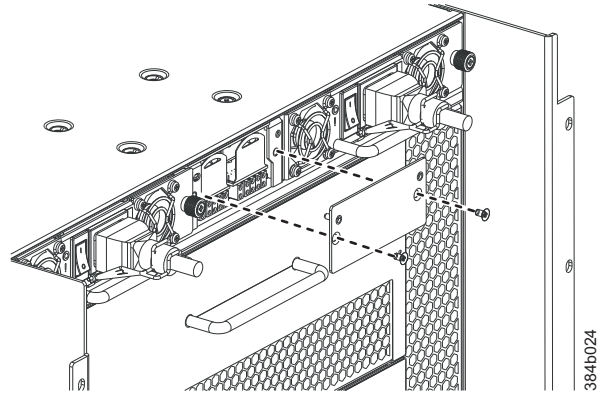

Figure 42. WWN bezel and card removal and installation
3. Remove the two screws from the WWN bezel . Pull the bezel away from the chassis and set it aside (see Figure 42 on page 87). The WWN cards and their status LEDs are visible.
6. Install the WWN bezel. Orient the bezel on the chassis (Figure 42). Insert and tighten the two screws.